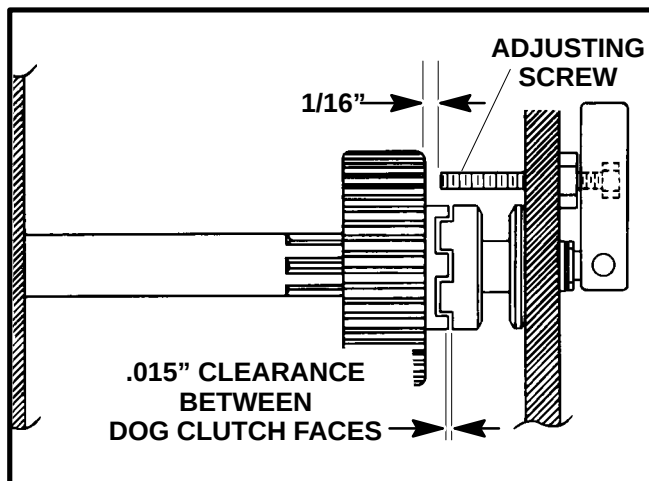

FIGURE 48
22. Back adjusting screw out until 1/16" (1.59 mm) is obtained between screw and gear. See Figure 48.